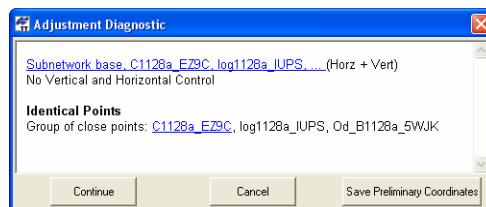

Figure 6-17. Messages After Searching of the Identical Point
- A failed test is where the difference is less than the values set in the **Job Configuration** dialog box. The network adjustment process will be interrupted and the **Adjustment Diagnostic** dialog box will display (Figure 6-17).